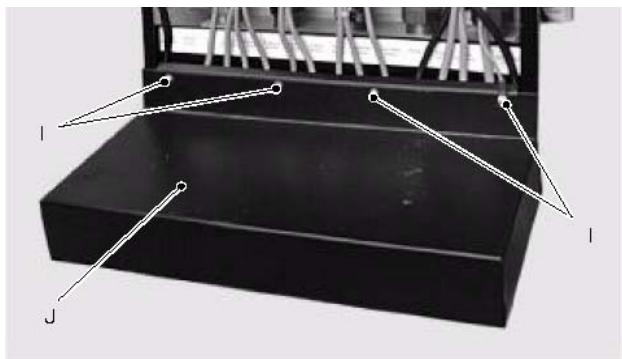

Fig 6
- 3 Remove the screws I (fig 6).